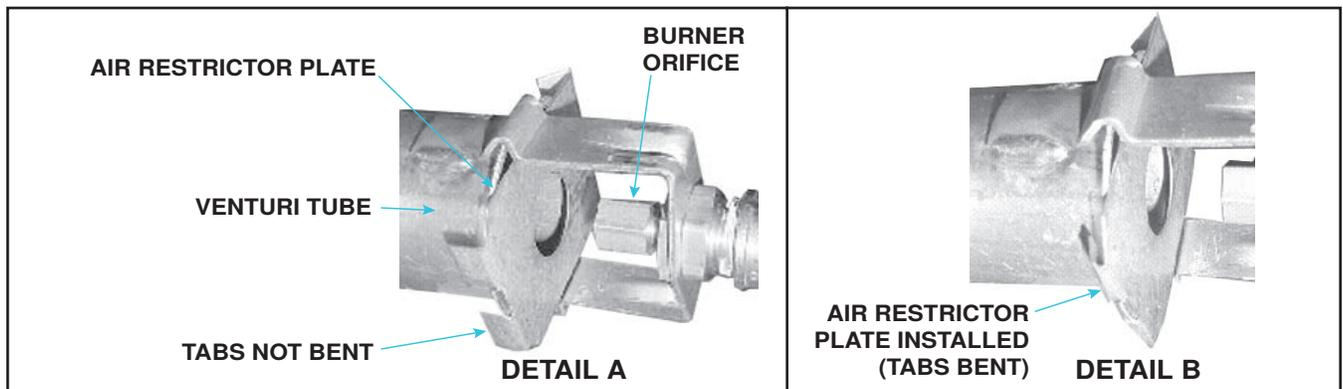

Figure 2. Burner Orifice and Air Restrictor Plate
3. Install air restrictor plate and replace burner orifice (see Figure 2):
- a. Carefully remove existing burner orifice (see Figure 2, DETAIL A).
- (1) Slide plate in place over venturi tube opening so that its 45-degree angle is hooked over rear of venturi tube.
- (2) While holding plate in position, use pliers to carefully bend tabs to lock plate in place (see Figure 2, DETAIL B). Ensure that air restrictor is aligned and secure.
- c. Install replacement burner orifice (see Figure 2, DETAIL A).